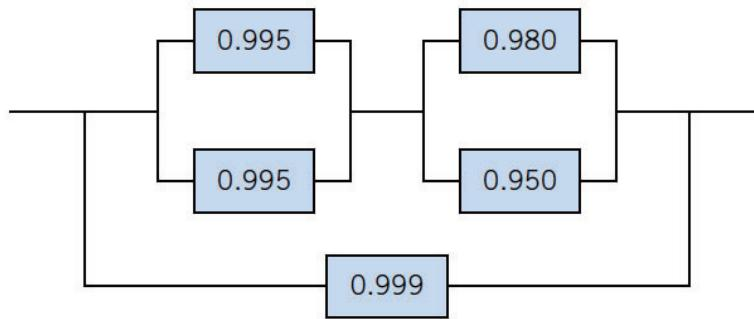

Figure 1: A system connected with different components. Reliability of each component is shown.
- (4). (a). Consider the system shown in Figure 1. The reliability of each component is provided in the figure. Assume that the components operate independently, calculate the system reliability.